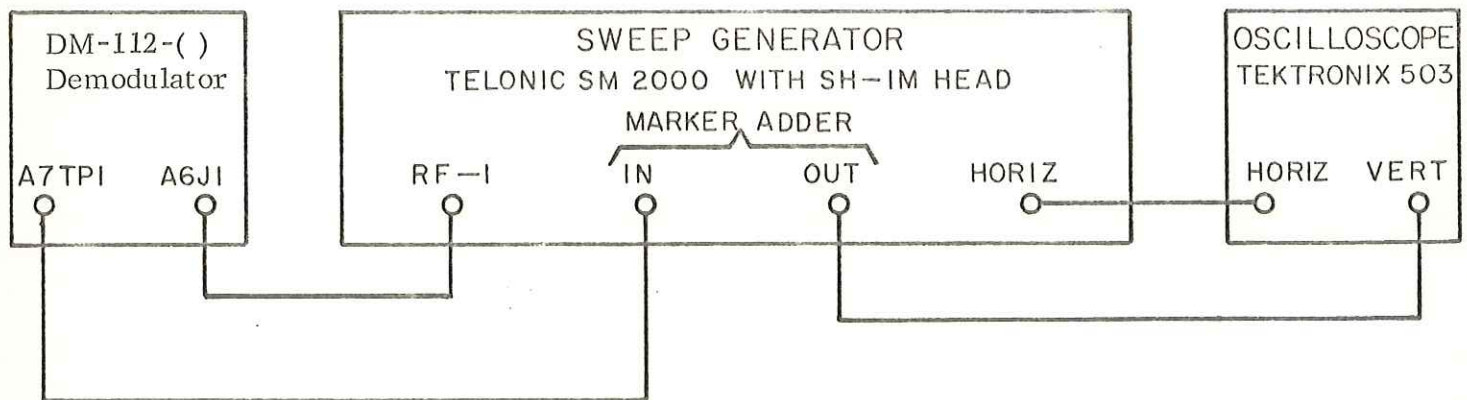

Figure 4-7. Test Setup, 160 MHz Limiter/Discriminator Alignment (A7)
- (2) Set the sweep generator output frequency to 160 MHz with the generator output level just high enough to display a signal on the oscilloscope.
- (3) Turn on the internal 160 MHz marker or apply an external 160 MHz marker.
- (4) Adjust capacitor A7C1 for a maximum symmetrical response centered on the marker pip.
- (5) Reconnect the equipment as shown in Figure 4-7.